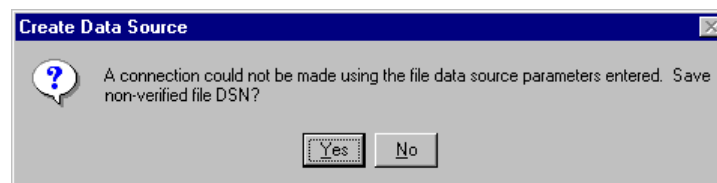

Figure 83. Create new OneWorld Data Source connection warning
- e. If you see the message shown in Figure 83, click **Yes**. This saves the data source name.